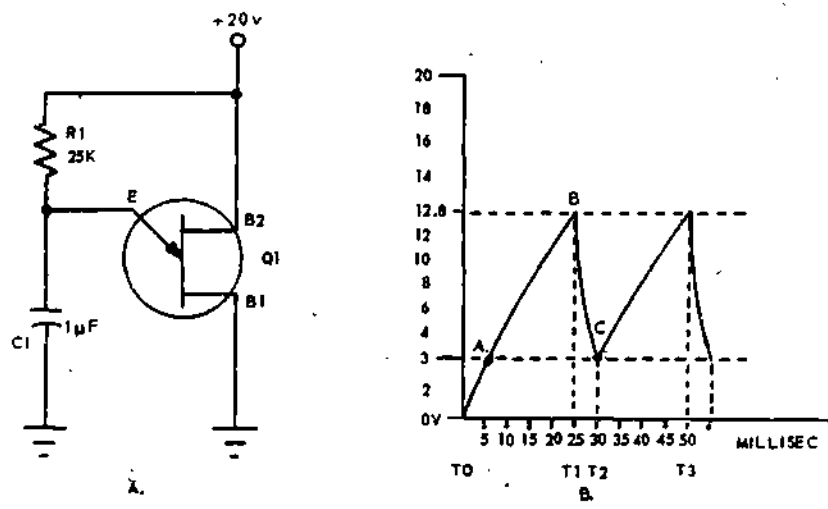

Figure 48-2
For questions 1 through 9 refer to figure 48-2 as necessary.
2. The valley point of the output waveform (Part B) is represented by the letter (B) (C) and the peak point is represented by the letter (B) (C).
5. Linearity of the output signal from the figure 48-2 circuit could be improved by disconnecting R1 from the +20 volts and connecting it to a (higher) (lower) voltage.
9. In order to attain a more stable output frequency, the figure 48-2 circuit could be slightly modified and the frequency controlled by applying a negative trigger to the (emitter) (Base 2) element.